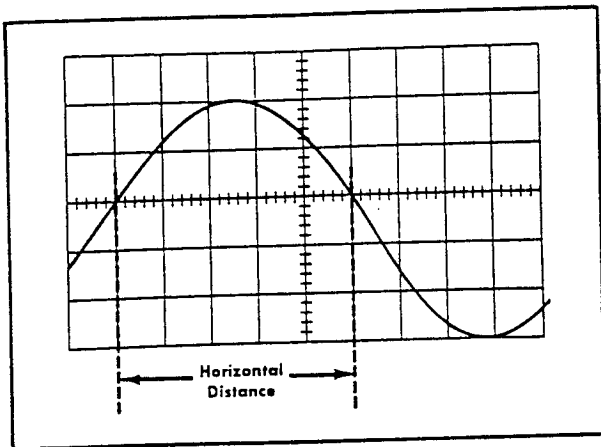

Fig. 2-16. Measuring the time duration between points on a waveform.
5. Set the TIME/DIV switch to the fastest sweep rate that will display less than eight divisions between the time measurement points (see Fig. 2-16). See the topic entitled 'Selecting Sweep Rate' in this section concerning non-linearity of first and last divisions of display.
**Example.** Assume that the distance between the time measurement points is 5 divisions (see Fig. 2-16) and the TIME/DIV switch is set to .1 mSEC with the magnifier off.
**Example.** The frequency of the signal shown in Fig. 2-16 which has a time duration of 0.5 milliseconds would be: